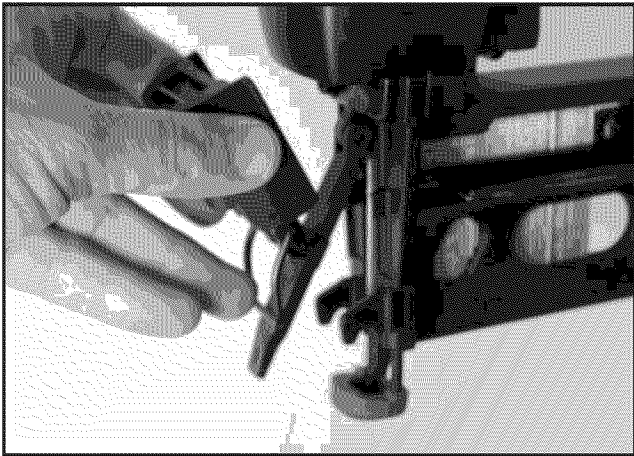

Figure 10-Clearing a Jammed Fastener
- Grasp tool noseplate on both sides and pull outward to disengage pin from latch. Then pull upward to swing fastener guide plate away from magazine (see Figure 10).